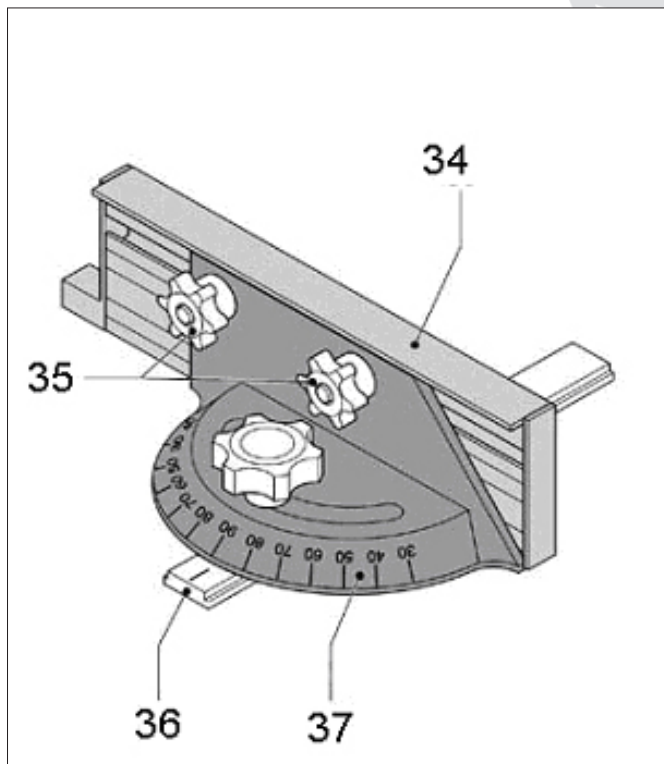

Figure 9
Push the bevel guide (11) into one of the rails on the workbench. The guide rail (34) must be set so it is just clear of the saw blade. Secure the guide rail using the screws (35) as shown in figure 9.